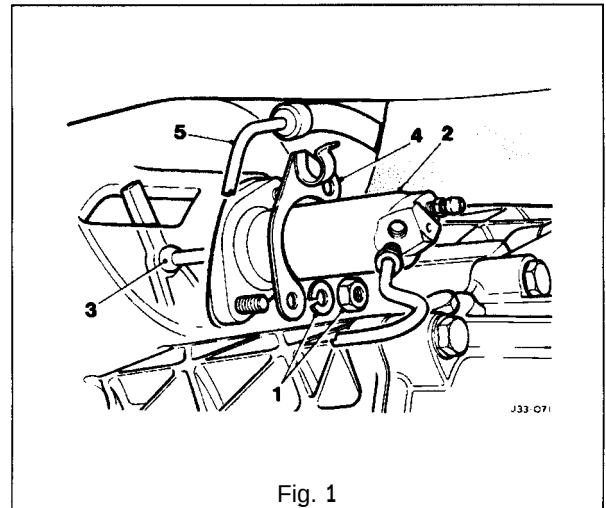

Fig. 1
- Remove the nuts (1 Fig. 1) and spring washers securing the slave cylinder to the transmission.
- Remove the hose clip bracket (4 Fig. 1) complete with the hydraulic hose/pipe (5 Fig. 1), and slide the slave cylinder (2 Fig. 1) off the mounting studs.
- Slide the rubber boot along the push rod (3 Fig. 1) and withdraw the push rod from the cylinder.